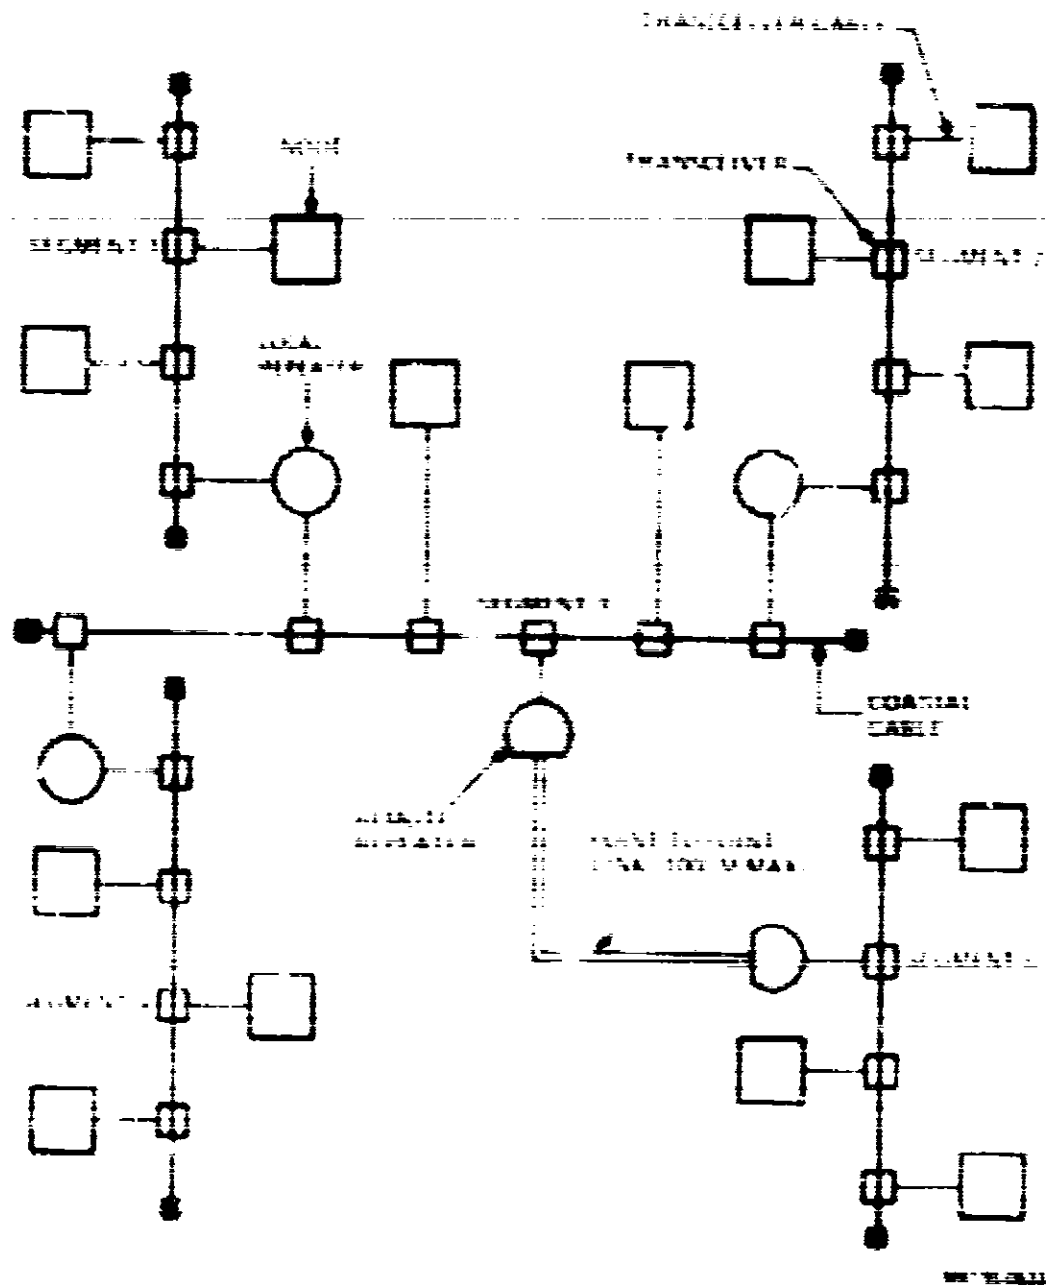

Figure 1-6 Typical Large-Scale Ethernet Configuration
- The network may also be extended using two remote repeaters with an optical point-to-point link of up to 1,000 meters (3,281 feet) as shown in Figure 1-6.